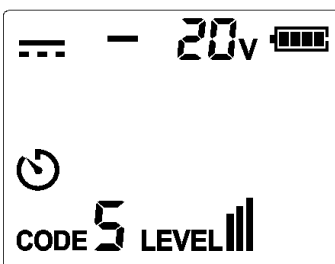

Figure 9.1b DC voltage measurement
5. When the voltage is 8 V ~ 480 V DC/AC (50/60 Hz). If the measured voltage is DC voltage and the positive pole is connected to COM port, then the polarity of the port will be displayed (the polarity of V+ port is "-"). As shown in Figure 9.1b.